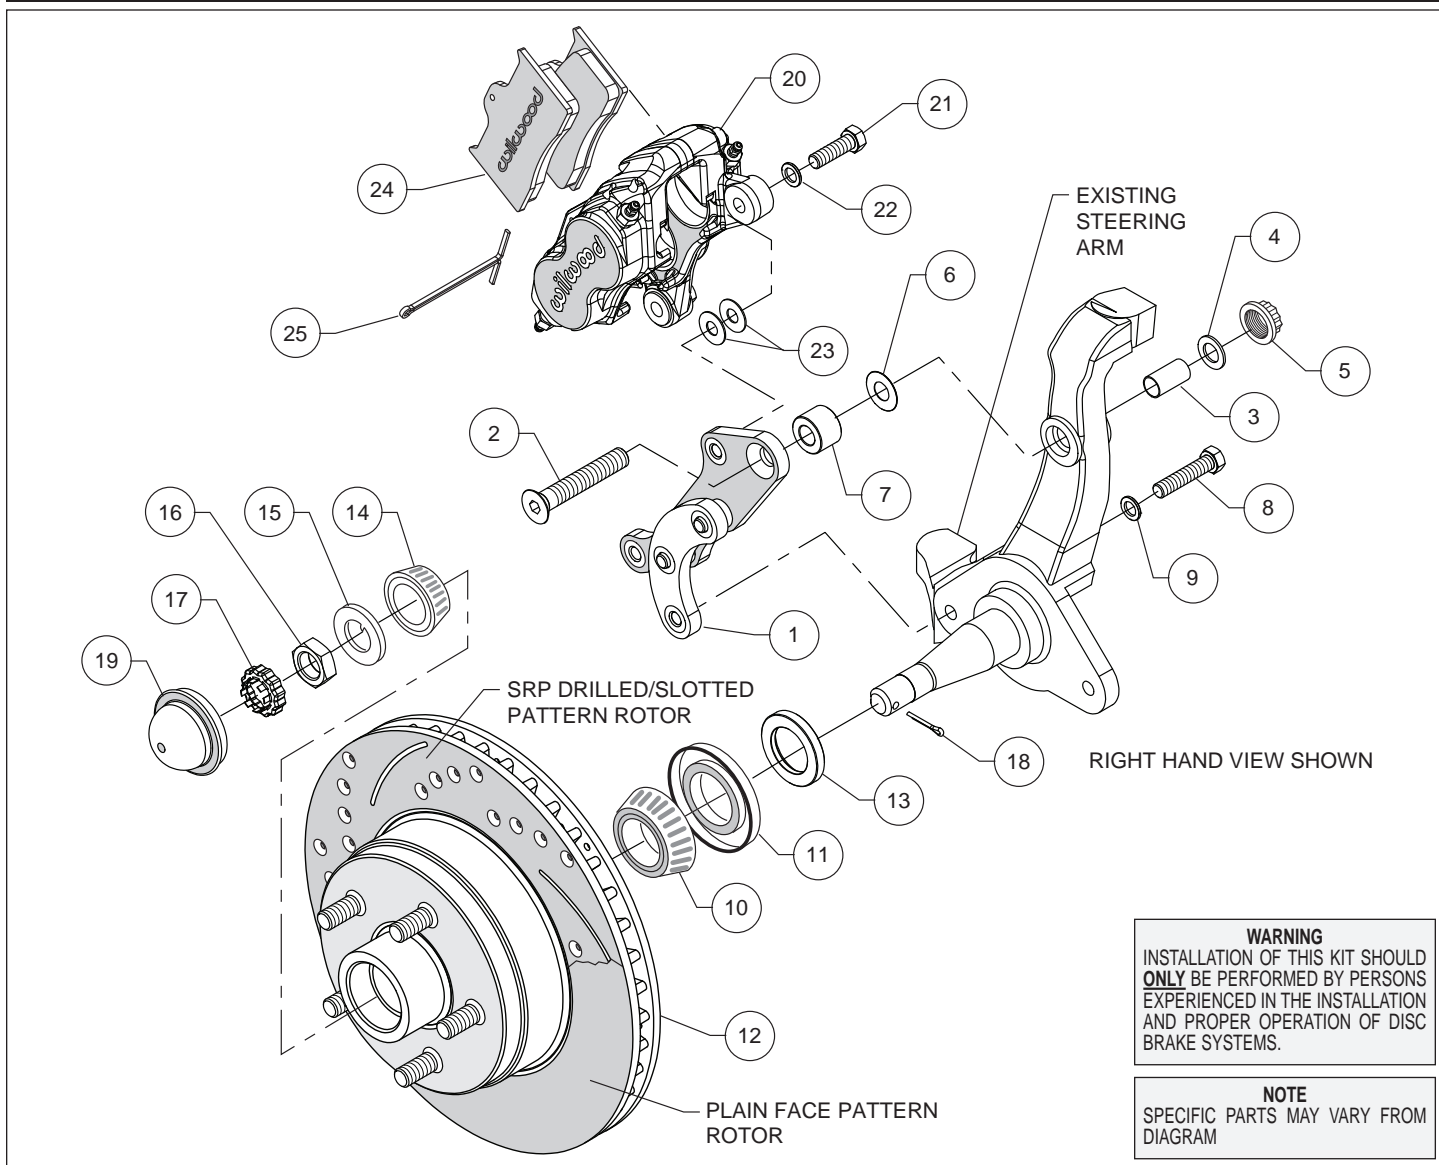
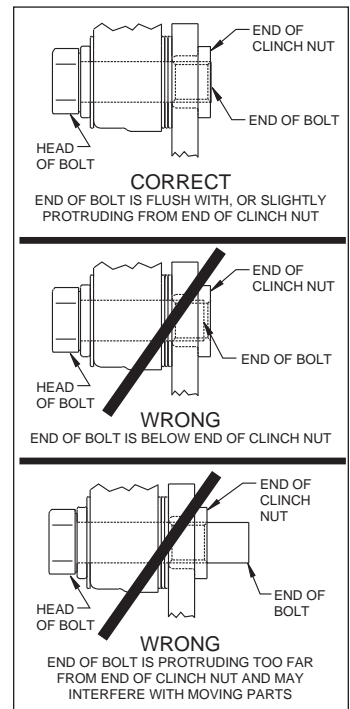

Figure 1. Typical Installation Configuration
Figure 3. Clinch Nut Engagement Diagram
**Assembly Instructions** (numbers in parenthesis refer to the parts list and Figure 1 on the preceding pages): **CAUTION:** All mounting bolts must fully engage clinch nuts. Be sure to check that all bolts are either flush or protruding through flanged side of clinch nut after shimming, Figure 3.
- The caliper bracket (1) should initially be installed with clean, dry threads on the mounting bolts. The bracket has been assembled at the factory for alignment purposes. Loosen the two bolts that secure the brackets together so that the bolts are hand tight only. This will enable the bracket assembly to be adjusted to accommodate various spindle tolerances during assembly. Insert sleeve (3) into top mounting hole on the spindle, Figure 1. Orient the bracket as shown in Figure 1 and install using bolt (2), washer (4), locknut (5), in the upper hole. Place a .711" thick spacer (7) positioned between the bracket and spindle, as shown in Figure 1 and Photo 1. Initially use one .032" thick shim (6) on the upper bolt between the bracket and spindle, Figure 1. Install bolt (8) and washer (9) in the lower hole, Figure 1. Temporarily tighten the mounting bolts, followed by the two bracket-to-bracket bolts. **NOTE:** The bracket must fit squarely against the mounting points on the spindle. Inspect for interference from casting irregularities, machining ridges, burrs, etc. Later, after the bracket alignment has been checked, the bolts will be secured using red *Loctite*® 271.
- Pack the large inner bearing cone (10) with high temperature disc brake bearing grease (available from your local auto parts store) and install into the backside of the hub (12), Photo 2.
- Install the grease seal (11) by pressing into the backside of the hub (12), flush with the end of the hub.
- Slide the hub/rotor spindle spacer (13) onto the spindle. Ensure the chamfered I.D. faces inward, Photo 3.
- Temporarily install the hub/rotor (12) onto the spindle. Check that the caliper mounting bracket (1) is aligned parallel to the rotor, Photo 4. If not, adjust by adding or subtracting shims (6) on the upper bolt between spacer and spindle, Figure 1. Once the bracket alignment is correct, torque the upper bolt locknut to 65 ft-lb. Remove the lower bolt, apply red *Loctite*® 271 to the threads, and torque to 40 ft-lb.
- Remove hub/rotor and pack the small outer bearing cone (14) with high temperature disc brake bearing grease and install into the front side of the hub (12). Slide the hub/rotor onto the spindle. Secure using spindle washer (15), and spindle nut (16). Adjust bearings per OEM specifications. Install spindle nut retainer (17) and a new cotter pin (18), Photo 5.
- Press the dust cap (19) into the hub (12), Photo 6.
- NOTE:** Please reference the caution statement at the beginning of the assembly instructions. Mount the caliper (20) onto the caliper mounting bracket (1) using bolts (21) and washers (22), as shown in Figure 1. Initially place two .035" thick shims (23) on each bolt between the caliper and the bracket, Photo 7. Temporarily tighten the mounting bolts and view the rotor (12) through the top opening of the caliper. The rotor should be centered in the caliper, Photo 8. If not, adjust by adding or subtracting shims between the bracket and the caliper. Always use the same amount of shims on each of the two mounting bolts. **NOTE:** The end of each bolt must be flush with or slightly protruding from the head of the clinch nut, as shown in Figure 3. If necessary place spare shims between washer (22) and caliper mounting ear to achieve the proper clinch nut engagement. Once the caliper alignment and clinch nut engagement are correct, remove the bolts one at a time, apply red *Loctite*® 271 to the threads, and torque to 40 ft-lb.
- Install the disc brake pads (24) into the caliper, with the friction material facing the rotor (12), Photo 9. Secure in place using cotter pin (25), Photo 10.